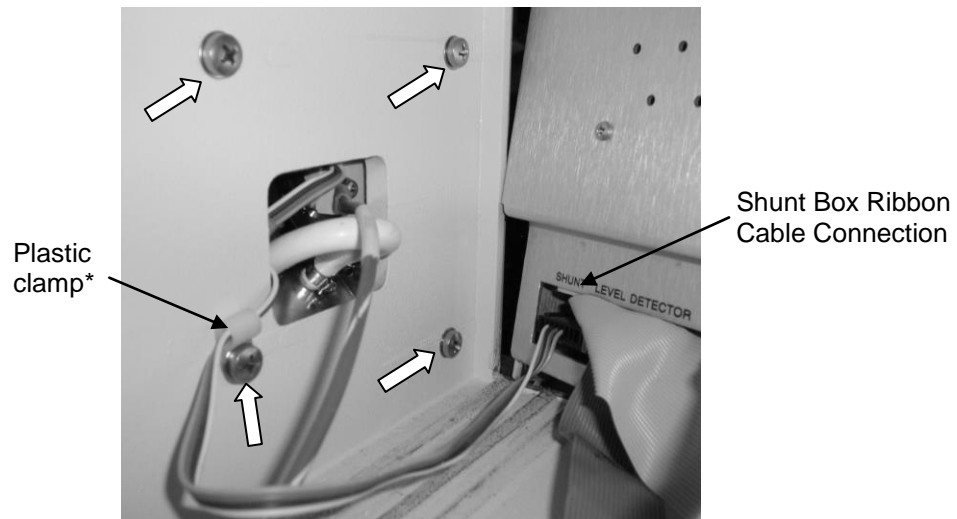

Figure 5
- 4.7 Arrange the ribbon cable connected to the card cage and push the card cage out far enough to access the four screws indicated by white arrows in Figure 5 and disconnect the shunt box ribbon cable from the back of the card cage.
Note: One of the four screws secures a plastic clamp used as a cable restraint for the shunt box ribbon cable (see Figure 5). Retain this clamp for reinstallation.
- 4.22 Install the shunt box assembly onto the side of the machine using the original hardware. While installing, reuse the plastic clip shown in Figure 5 to secure the shunt box cable.